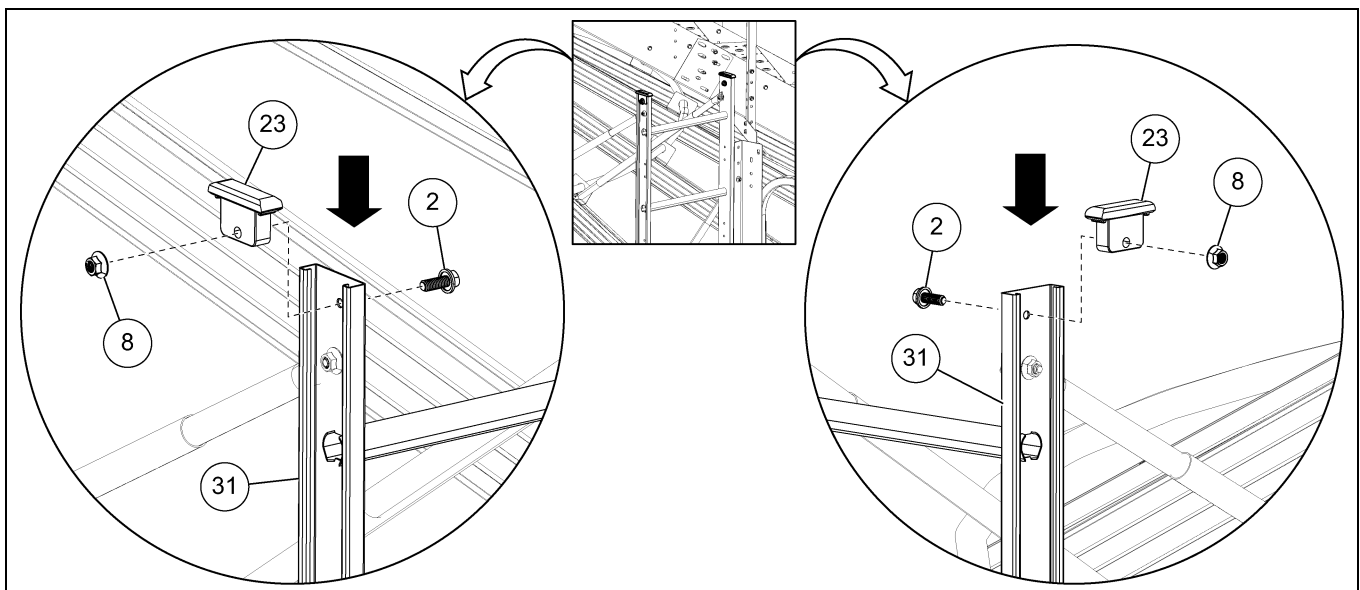

Figure 7F Installing the End Caps
1. Install the end caps (23) to both the left and right side of the ladder (31) by snapping the end caps (23) onto the top of the ladder (31). (See Figure 7F.)
2. Secure the end caps (23) in place using 5/16" x 1" flange bolt (2) and 5/16" flange nut (8).